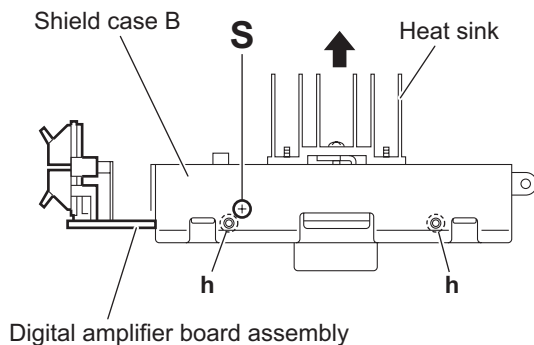

Fig.18
- (2) From the top and bottom sides of the digital amplifier board assembly, remove the three screws **S**. (See Figs.18 and 19.)
- (3) Release the joints (**h, j, k, m**) and remove the shield case B with the heat sink in the direction of the arrow. (See Figs.18 to 21.)